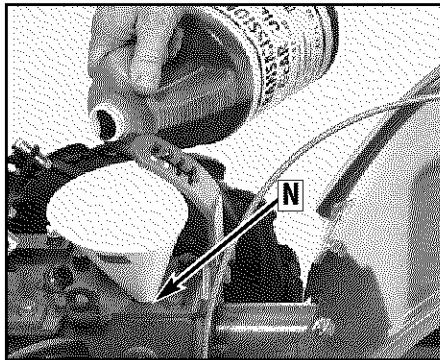

Figure 2-11: Adding gear oil.
- Clean area around the fill hole (N, Figure 2-11) and unscrew gear oil fill plug.
- Using a clean funnel, slowly add gear oil until it flows from the gear oil level check hole (N, Figure 2-11).